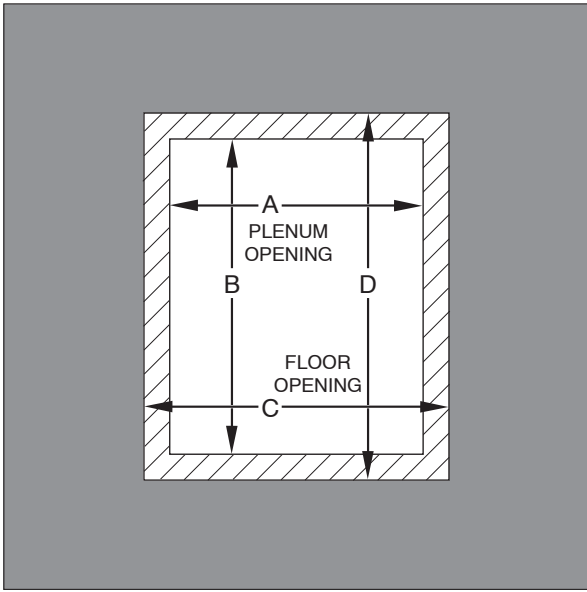

Fig. 22 - Floor and Plenum Opening Dimensions
2. Construct hole in floor per dimensions specified in Table 3 and Fig. 22.
3. Construct plenum to dimensions specified in Table 3 and Fig. 22.